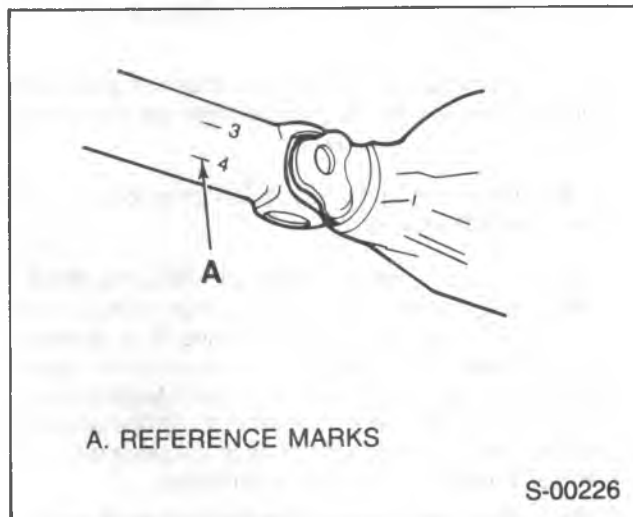

Figure 13—Propeller Shaft Reference Marks
Hose Clamp Method (Figures 13 and 14)
- Mark and number propeller shaft at four (4) points 90 degrees apart at rear of propeller shaft just forward of balance weight (figure 13).
- Install two (2) hose clamps on the rear of the propeller shaft and slide them rearward until the clamps stop at the nearest balance weight welded to the tube. Align both clamps at any one of the four marks made on shaft in Step 2 and tighten.